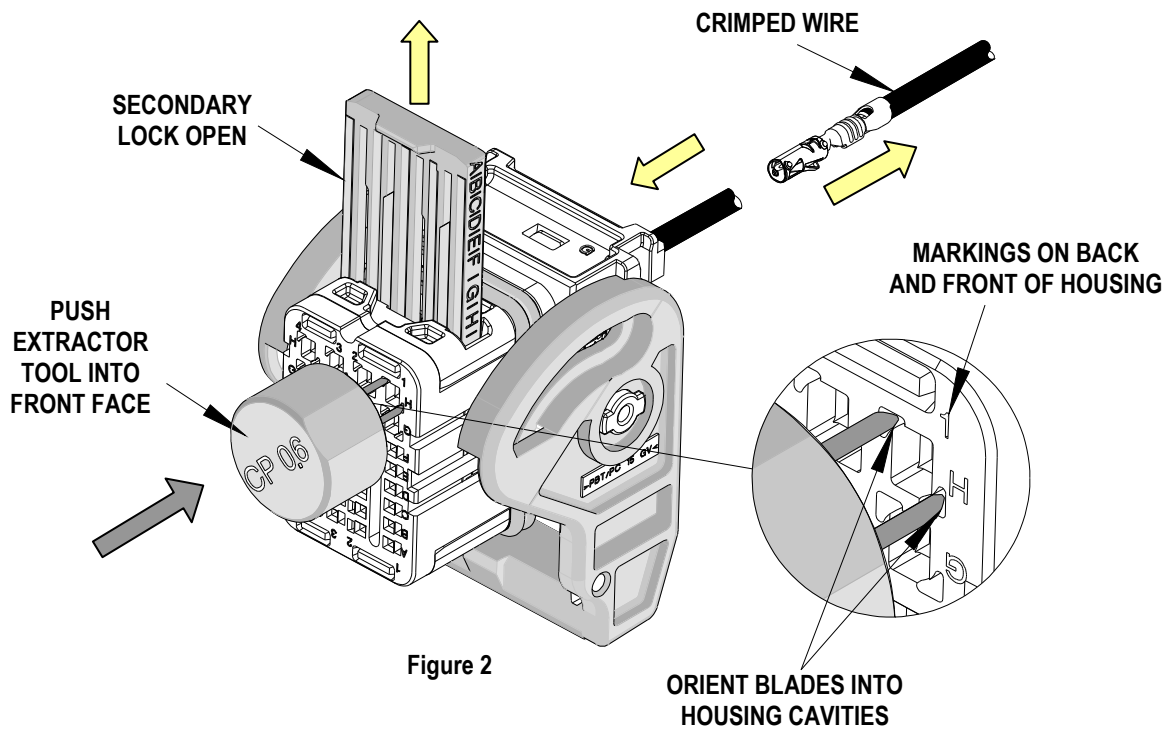

Figure 2
3. Position the blades of the extraction tool into the two small cavities of the slot in the front face of the housing as shown in Figure 2. Use the identifying markings on both the front and back of the connector to locate the opening used to extract the crimped wire.